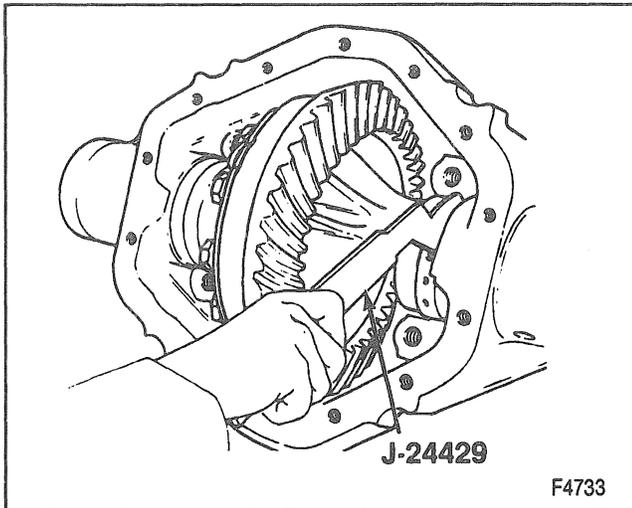

Figure 22—Adjusting the Nut
5. Bearing caps (19) and bolts (20) in their original positions.
- B. Turn the adjusting nut until the nut contacts the shim. Then tighten the nut three additional slots (Figure 22).